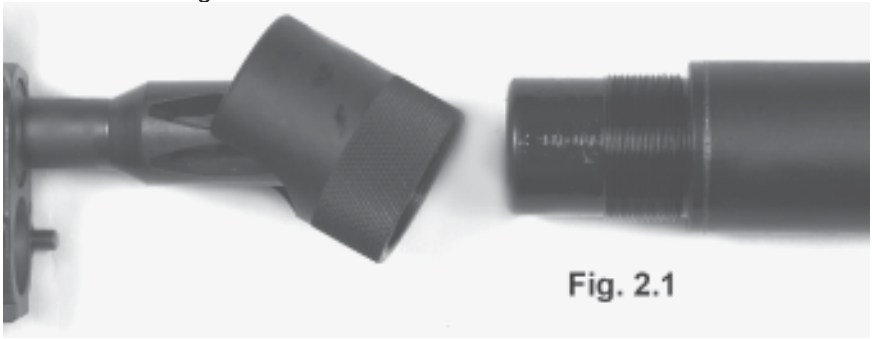

Fig. 2.1
- 2.10.1 Mounting: To mount and dismount the HALO sound suppressor on the compensator, follow the following steps, detailed in the Fig. 2.1 through 2-4, P. 11 and 12. :
2.10.1.2 Slide the retaining collar over the flash hider as shown in Fig. 2.1.